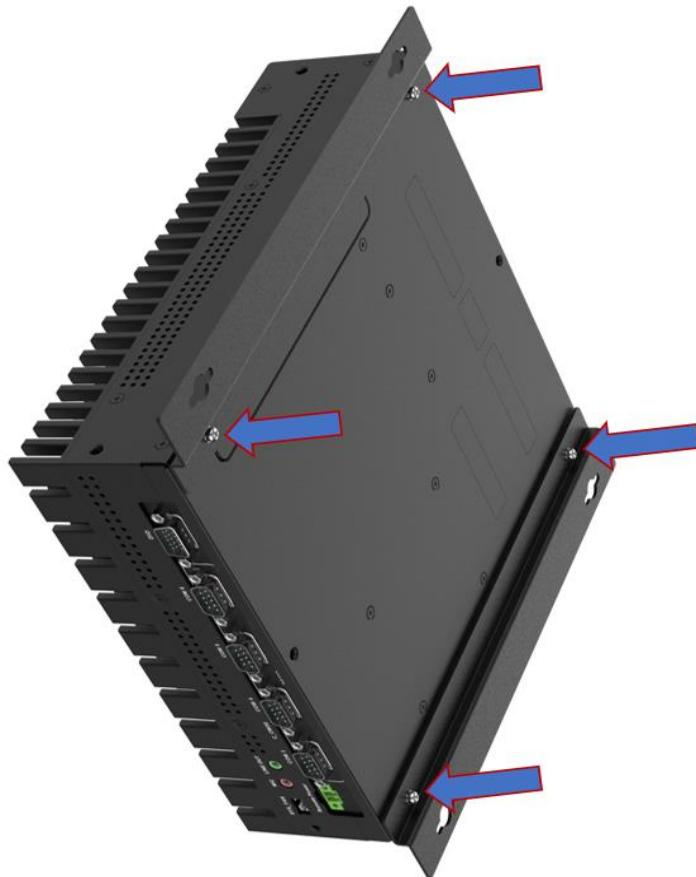

Figure 3-14: Mounting Bracket Retention Screws
Step 3: Secure the brackets to the system by inserting retention screws into each bracket (**Figure 3-14**).